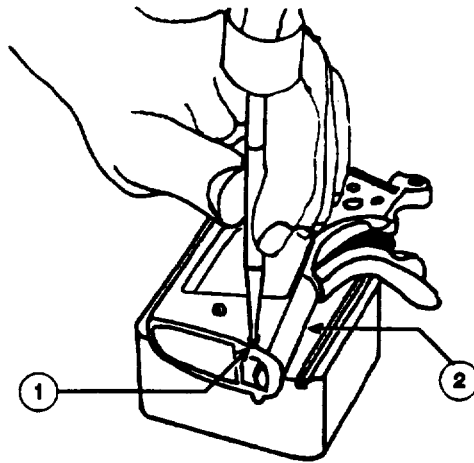

Figure 6-22. Removing Mainspring Housing Pin
(7) Using a 5/32" punch and 4 oz hammer, drive out mainspring housing pin (1), Figure 6-22, from the receiver assembly (2).
(15) Release the hammer.
(16) Fully install mainspring housing group. Use a 5/32" punch and 4 oz hammer to install mainspring housing pin (1), Figure 6-22, into the receiver assembly (2).
(17) Install the one piece combat pistol grip by following the procedures outlined in para 6-4 of this Manual.
(18) Reassemble slide assembly to receiver assembly by following the procedures outlined in para 3-3 of this Manual or in TM 00526A-10/1, Operator's Manual.
(19) Once the pistol is completely reassembled, perform the safety checks outlined in para 6-18 Of this Manual.